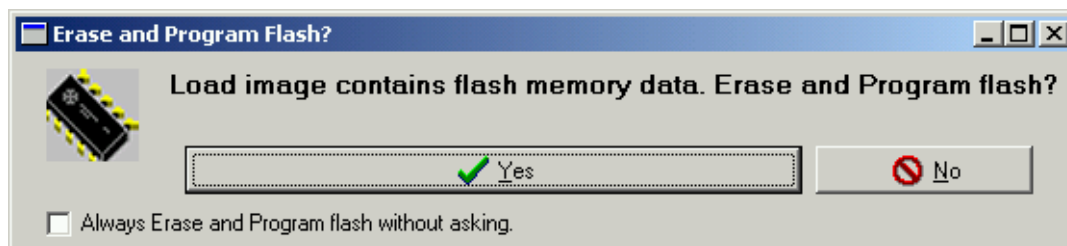

Figure 18. Erase and Program FLASH Window
11. Click Yes in Erase and Program FLASH window. (Figure 18)